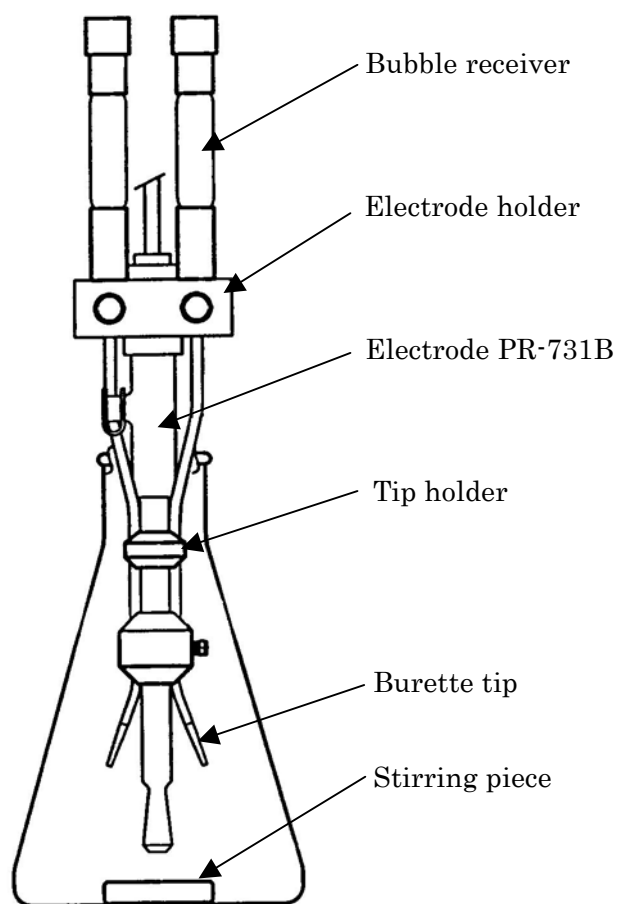

Figure 1. Example of electrode assembly used in titration
- (1) Wijs solution shall be added so that it is excessive by 50 – 60% of the required volume. If Wijs solution is absorbed more than this level, the sample volume must be reduced.
- (2) Since Wijs solution tends to be modified easily, blank measurement shall be implemented as necessary.
- (3) Since iodine may evaporate during the period of reaction between the sample and Wijs solution, Erlenmeyer flask with a stopper shall be used.
- (4) The reaction period may be reduced depending on the sample. The table on the right shows the relationship between the reaction period and measurement result for iodine number measurement on edible oil for reference.
- (5) Japanese Pharmacopoeia uses iodine trichloride instead of iodine monochloride in Wijs solution.
- (6) This method is said to have tendency to have higher values compared to the Hanus method .
- (7) The electrode assembly to be used in this measurement is shown in Figure 1.